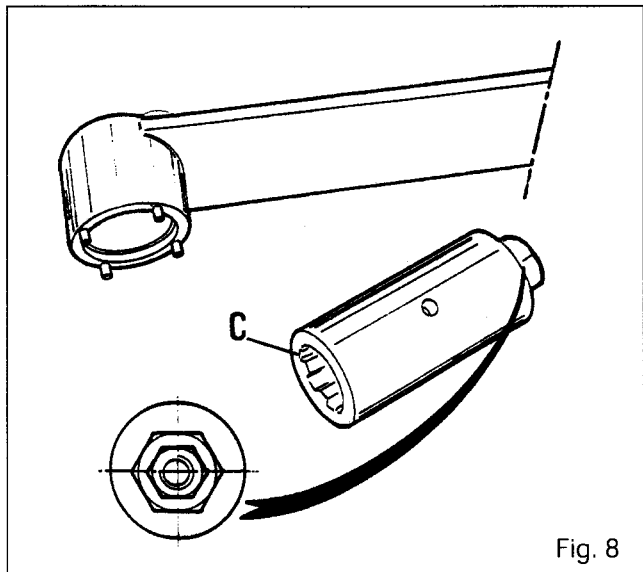
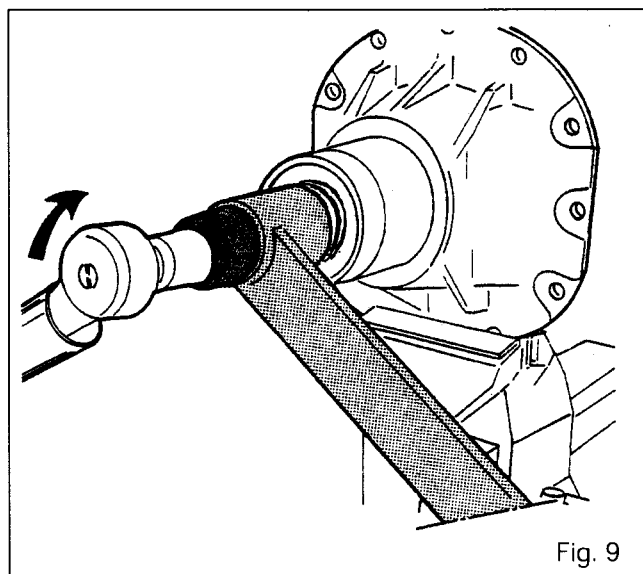

Fig. 8
Fig. 9
31. Unlock (according to fitting) and lock the nut (1) with the following type of wrench (Figures 8 and 9):
Unscrew the drive pinion in the clockwise direction (Fig. 9) using the special locally-manufactured sleeve "C" (Fig. 8) (See Part M).